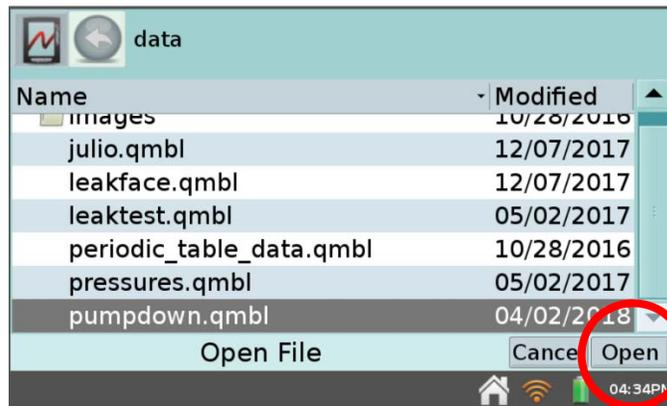

Figure 6 – LabQuest file list with 'pumpdown.qmbl' file highlighted.
- Tap on ‘pumpdown.qmbl’. The file name will become highlighted in gray (see Fig. 6).